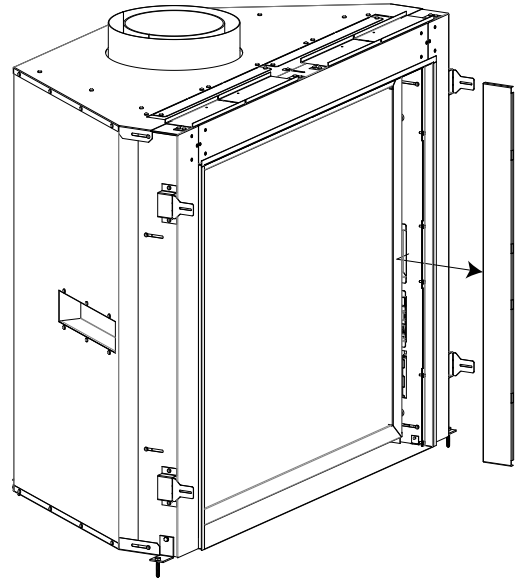

Figure 18: Side Panel Removal
3. A side cover can be found on the inner right side of the unit. It is held in place using two magnets. Gently pull the side panel out and away from the unit (see Figure 18).
- Pressure taps for the inlet (IN) and the manifold (OUT) *see page 49*